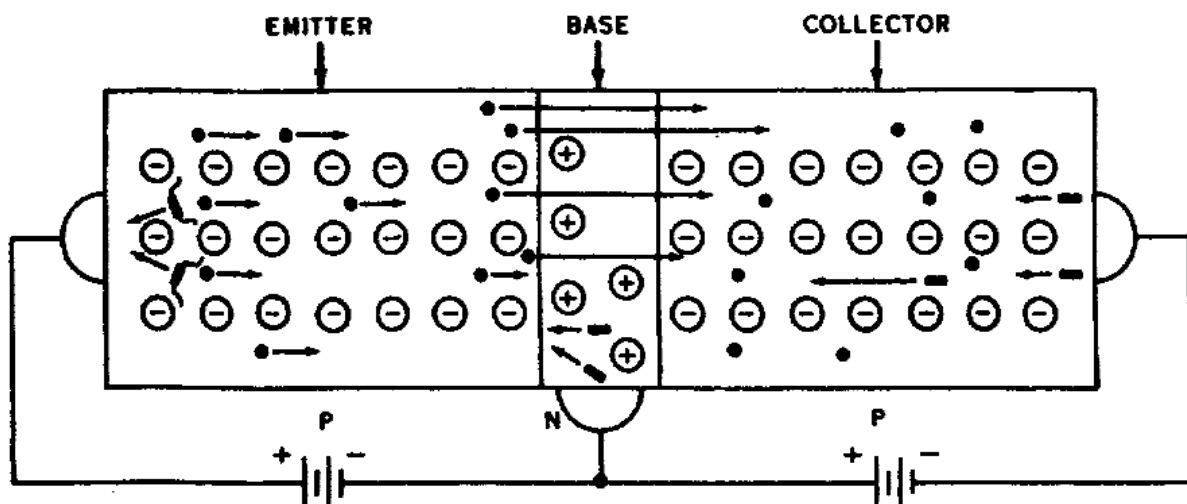

Figure 115. Simultaneous application of forward bias between emitter and base and reverse bias between base and collector of P-N-P transistor.
23. Figure 115 shows what happens when junctions are biased simultaneously. Because of the simultaneous biasing, a large number of holes from the emitter do not combine with the electrons entering the base from the emitter-base battery. Many of the holes diffuse through the base and penetrate the base-collector space charge
27. **N-P-N Junction Transistors.** The theory of operation of the N-P-N is similar to that of the P-N-P transistor. However, inspection and comparison of figures 115 and 116 will reveal two important differences: